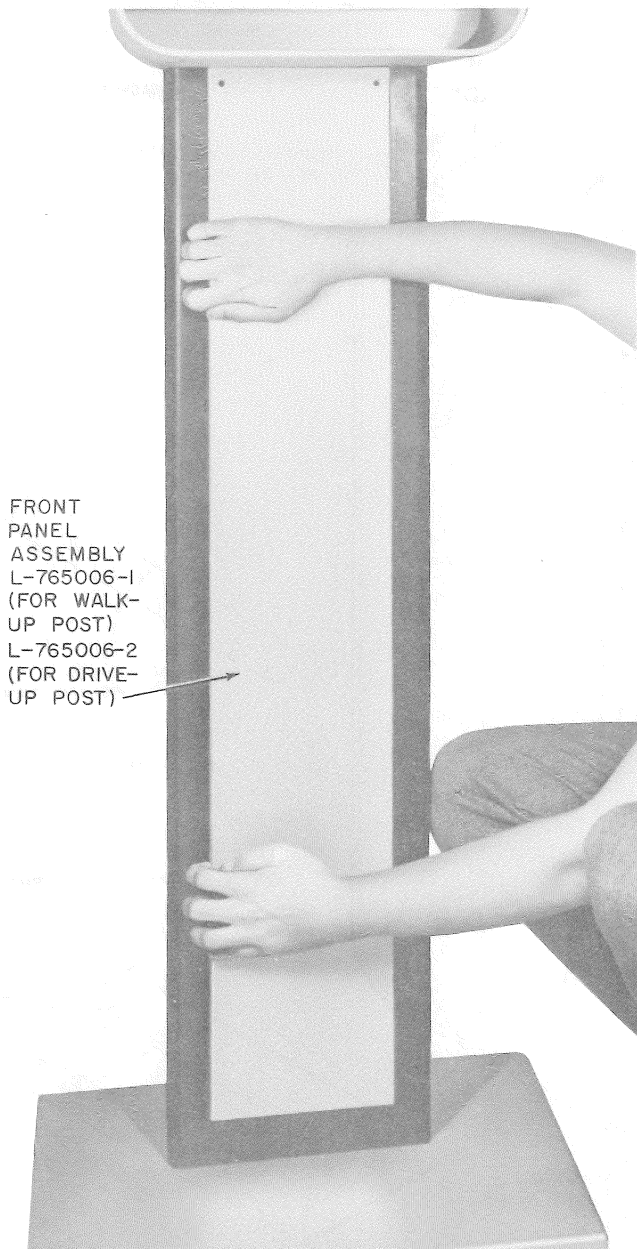

Fig. 17—Installing or Removing Front Panel Assembly on Post
- (6) The base is secured to a masonry surface with ten 1/2- by 3-inch machine bolts. Select the proper anchor to accommodate this size bolt and drill holes to accept the anchors.
- (7) The base is secured to a wood surface with ten 5/8- by 3-inch lag screws. Drill 1/2-inch lead holes 2 inches deep for these screws.
- (8) Lay the List 40 (walk-up) or List 41 (drive-up) post adjacent to the mounting area with the recessed area pointing up.
- (9) Using a KS-19192, List 1 wrench, remove the two FH security screws (No. 10-32 by 3/4-inch) from the front panel. Remove the panel from the post as follows:
- (b) Place both hands on the left side of the panel as shown in Fig. 17.